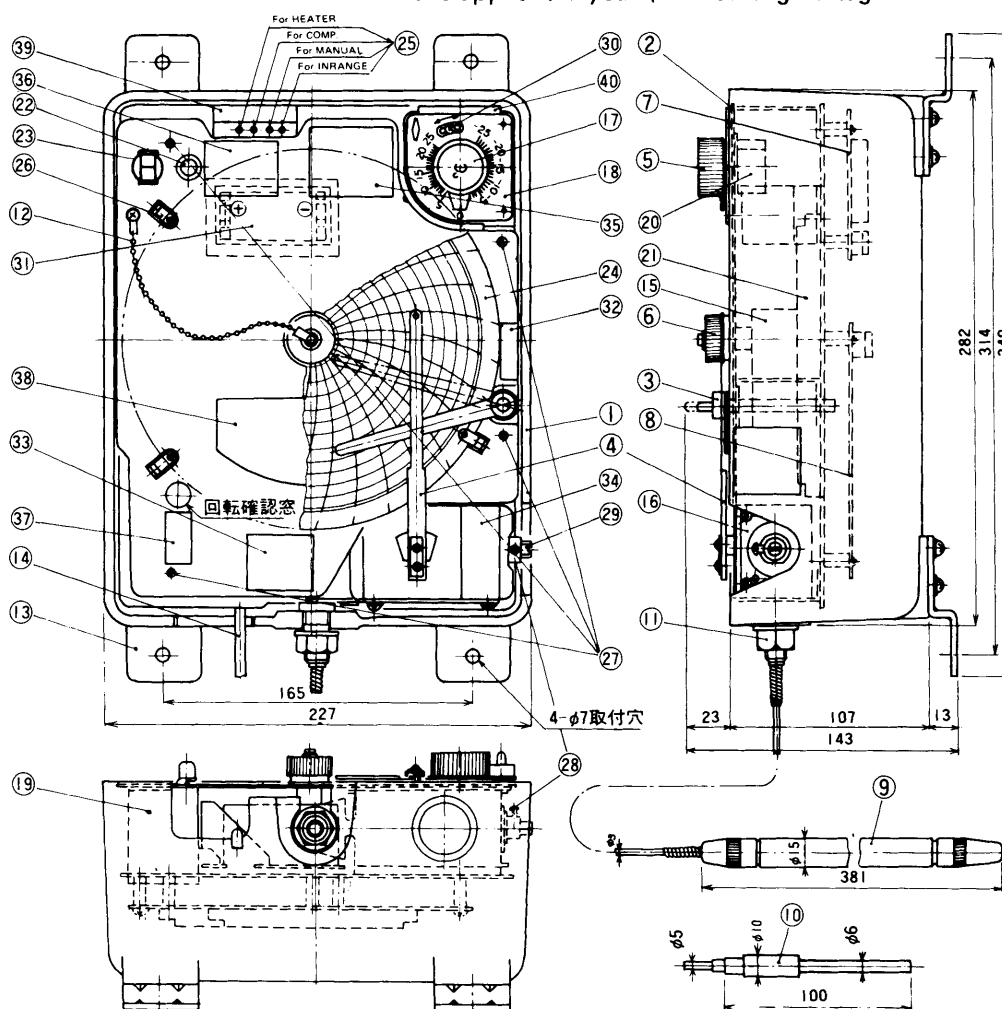

Fig. 1 Structure
- External wiring (Wiring from the devices in the control box to the unit to Terminal 21 in Fig. 1)